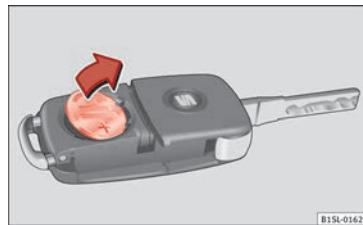

Fig. 100 Vehicle key: removing the battery »
- Extract the battery from the compartment using a suitable thin object » Fig. 100.
- Place the new battery in the compartment, pressing in the direction of the arrow as shown » Fig. 100 » ❷.